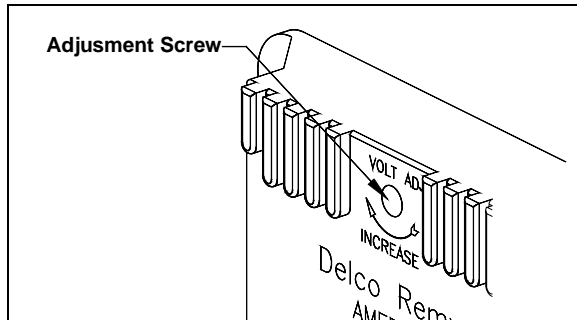

FIGURE 43: ADJUSTING REGULATOR VOLTAGE SETTING 06418
4. If not, the desired setting can be obtained by removing the plug from the voltage regulator cover and slightly turning the adjusting screw inside the regulator. Turn the adjusting screw clockwise to increase the voltage setting or counterclockwise to decrease it. See figure 43 for details.
Resistor R2 = Turn voltage adjustment screw (identified in figure 43) with ohmmeter connecting each way. Reading should change as slotted screw is turned. If not, replace R2.